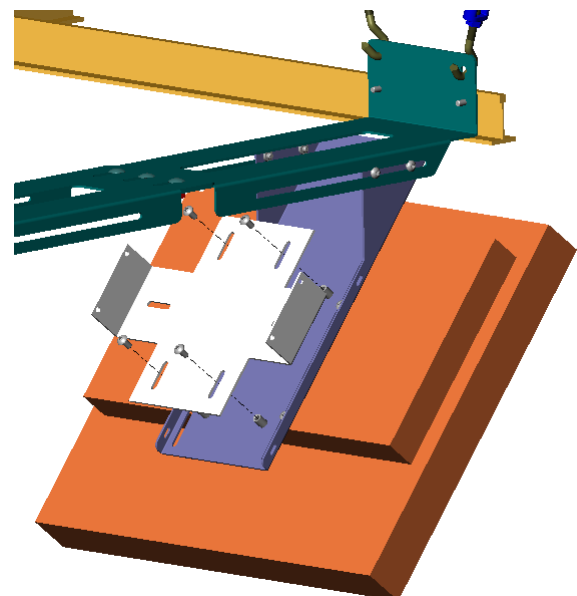

Figure 10. H Box Bracket Installation
1. Install H box bracket (not included) on LCD mount brackets (20) and secure using four 10-32 X 3/8” button-head cap screws (70) (see Figure 10).